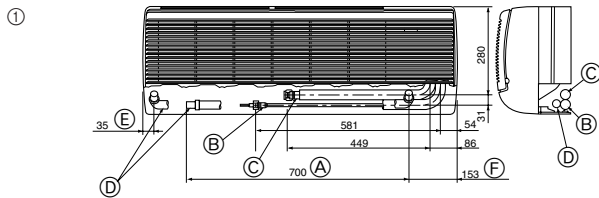
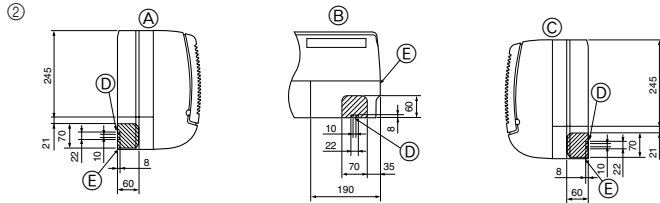

Fig. 4-3
Fig. 4-4
① Position of refrigerant and drain piping (Fig. 4-3)
- (A) Total length of flexible hose
- (B) Liquid pipe
- (C) Gas pipe
- (D) Drain hose
- (E) Left-side piping
- (F) Right-side piping
② Determine the position of the knockout holes on the unit body. (Fig. 4-4)
- (A) Left-side piping
- (B) Lower piping
- (C) Right-side piping
- (D) Remote controller cable through hole
- (E) Corner box